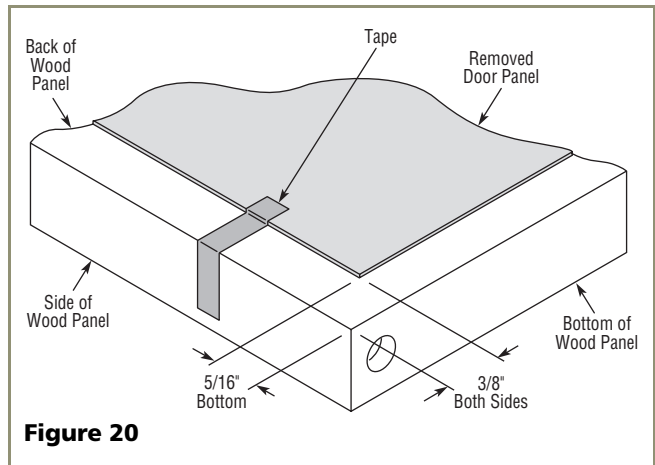
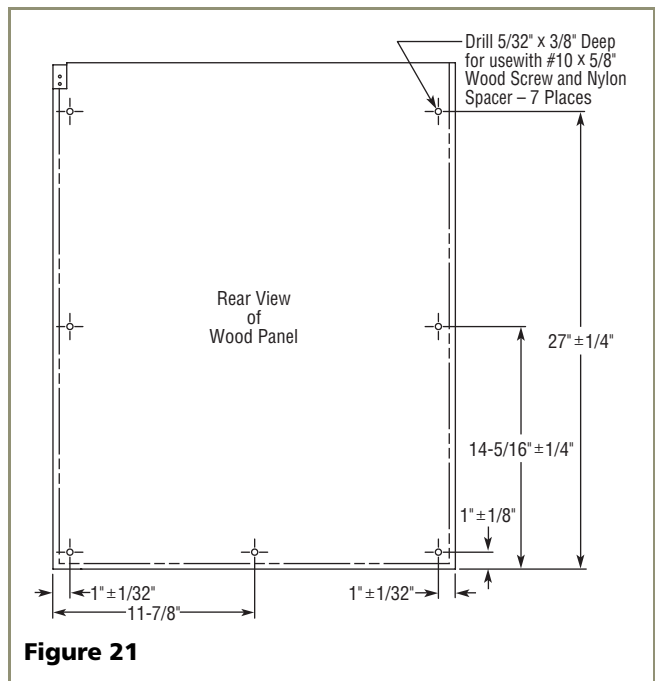

Figure 20
Figure 21
2. Place and tape the existing door panel on the back of the overlay panel (see **Figure 20**) and drill holes through both panels according to **Figure 21**. Remove tape adjoining the panels and enlarge the seven holes in the overlay panel using a 0.201" (#7) drill.
Note: If door is adjusted correctly, but panel is not square with the adjacent cabinets, slight adjustments can be made by drilling the holes in the vinyl coated steel panel slightly oversized. See **Figure 21** on **Page 10**.